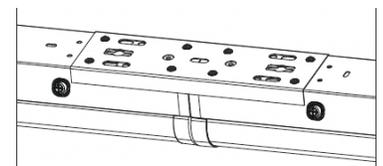

Fig. 25
4. Secure the connection bracket on the other end to another fixture (Fig. 25).